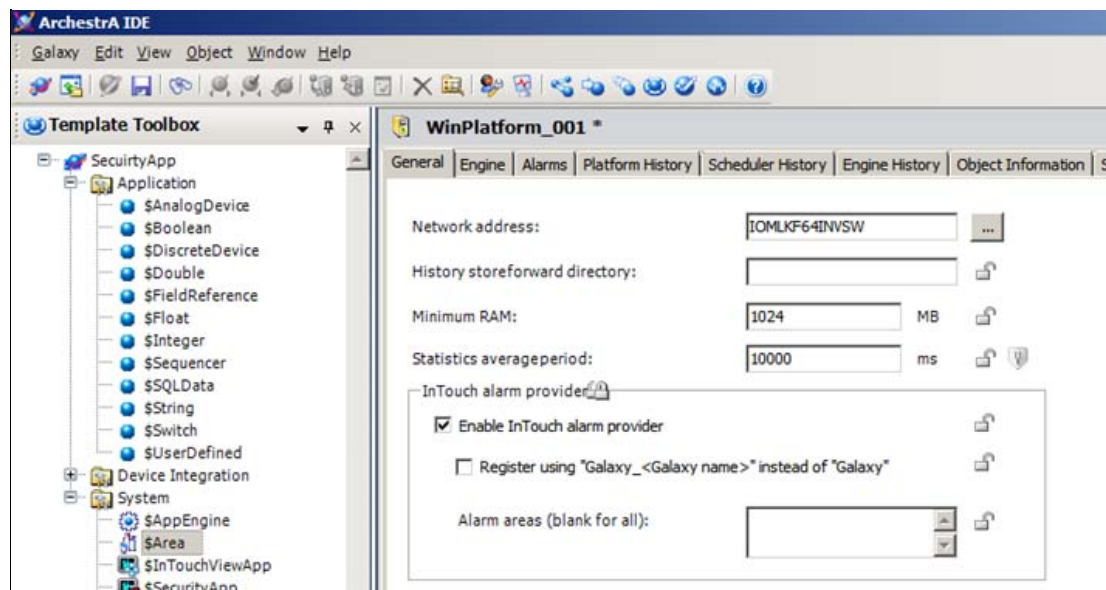

FIGURE 9: ENABLE INTOUCH ALARM PROVIDER
7. Enable **InTouch Alarm Provider** on the **\$WinPlatform_001** object (Figure 9 below).